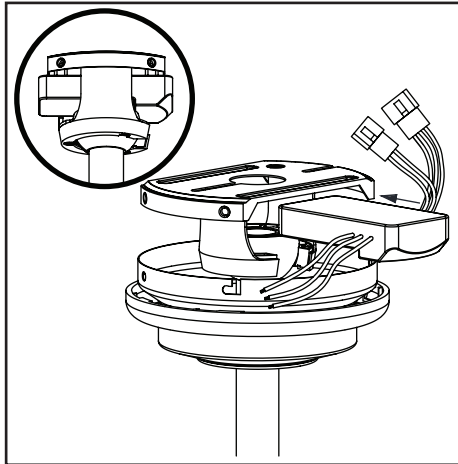

Figure 14
2. Insert the narrow end of the receiver (as shown, flat side toward ceiling) into the slide-on mounting bracket until it rests on top of the ball/downrod assembly. (Figure 14)